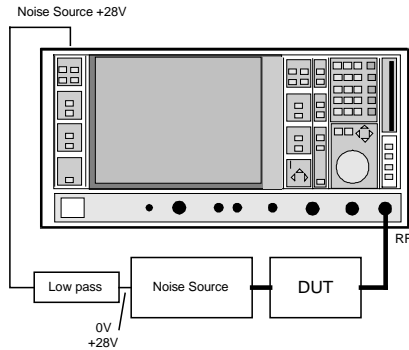

Fig. 2-2: Test setup
- After successful termination of the calibration, the DUT is inserted into the test setup. (see Fig. 2-2)